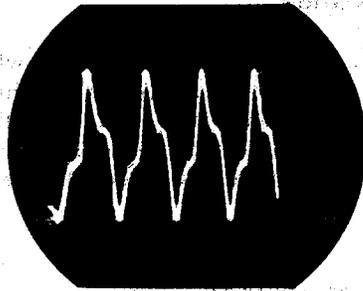

Figure 2.
(1) Adjust the 1000 cps input signal to 1 volt. This should drive the IDC circuit to the full clip. See figure 2.
(2) With this input signal level, adjust the IDC control on the transmitter to provide a 10-square peak-to-peak recovered signal on the oscilloscope. This is equivalent to ± 5 kc deviation as shown in figure 2. A wide-band system should be adjusted for 30 squares (± 15 kc).